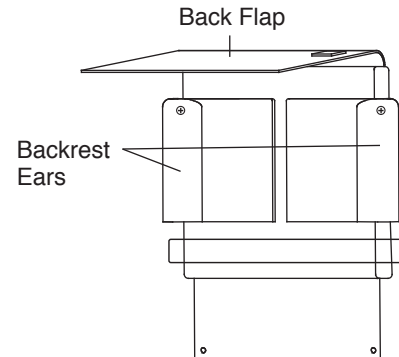

Figure 40
1. Lift the back flap to expose the back straps/backrest ears (which are adjustable using “hook & loop” material). See Figure 40.